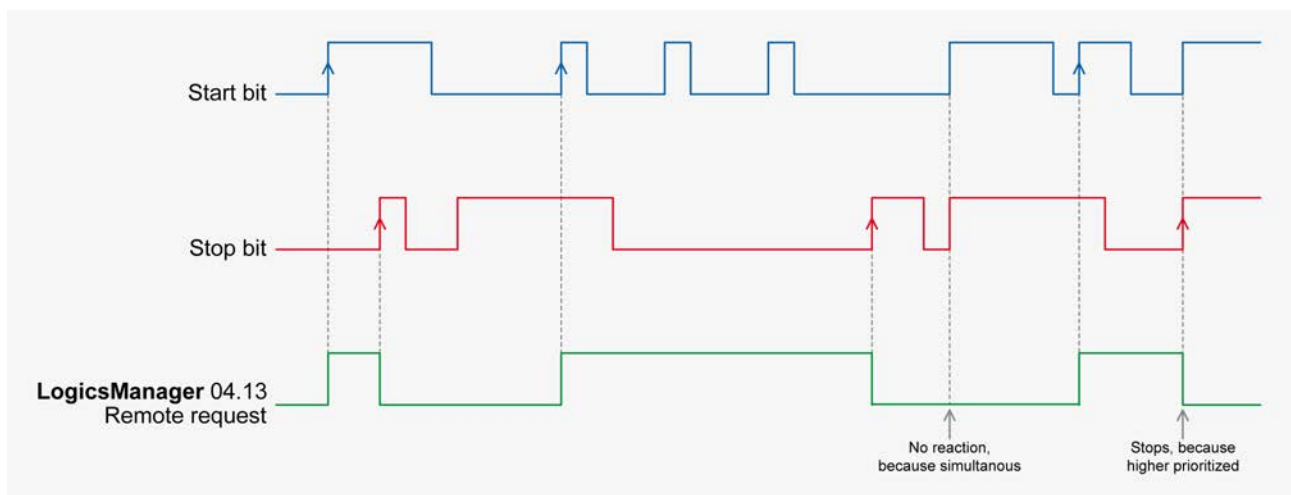

Fig. 207: Command variable
- The command variable "04.13 Remote request" changes to "0" (low) if the stop bit (ID 503, bit 1) changes from "0" to "1" (Fig. 207).